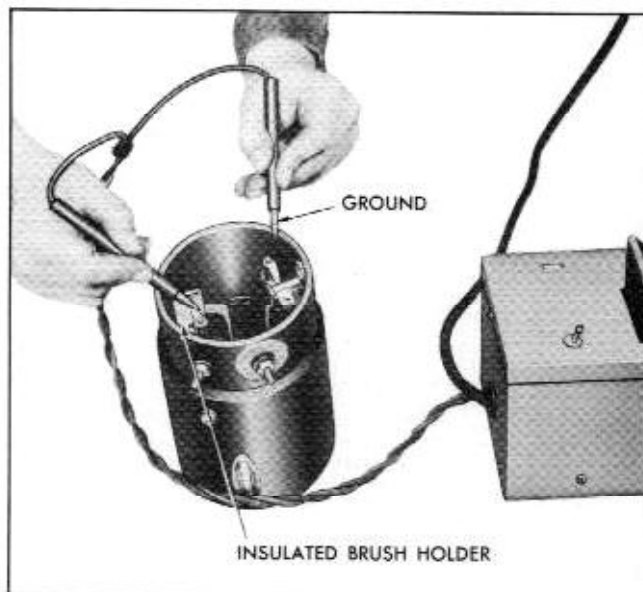

Fig. 12-21 Testing Positive Brush Holder for Ground
g. Using a 110-volt test lamp, place one lead on the positive or insulated brush holder and the other lead on ground. If lamp lights the brush holder is grounded due to defective insulation at the frame (Fig. 12-21).